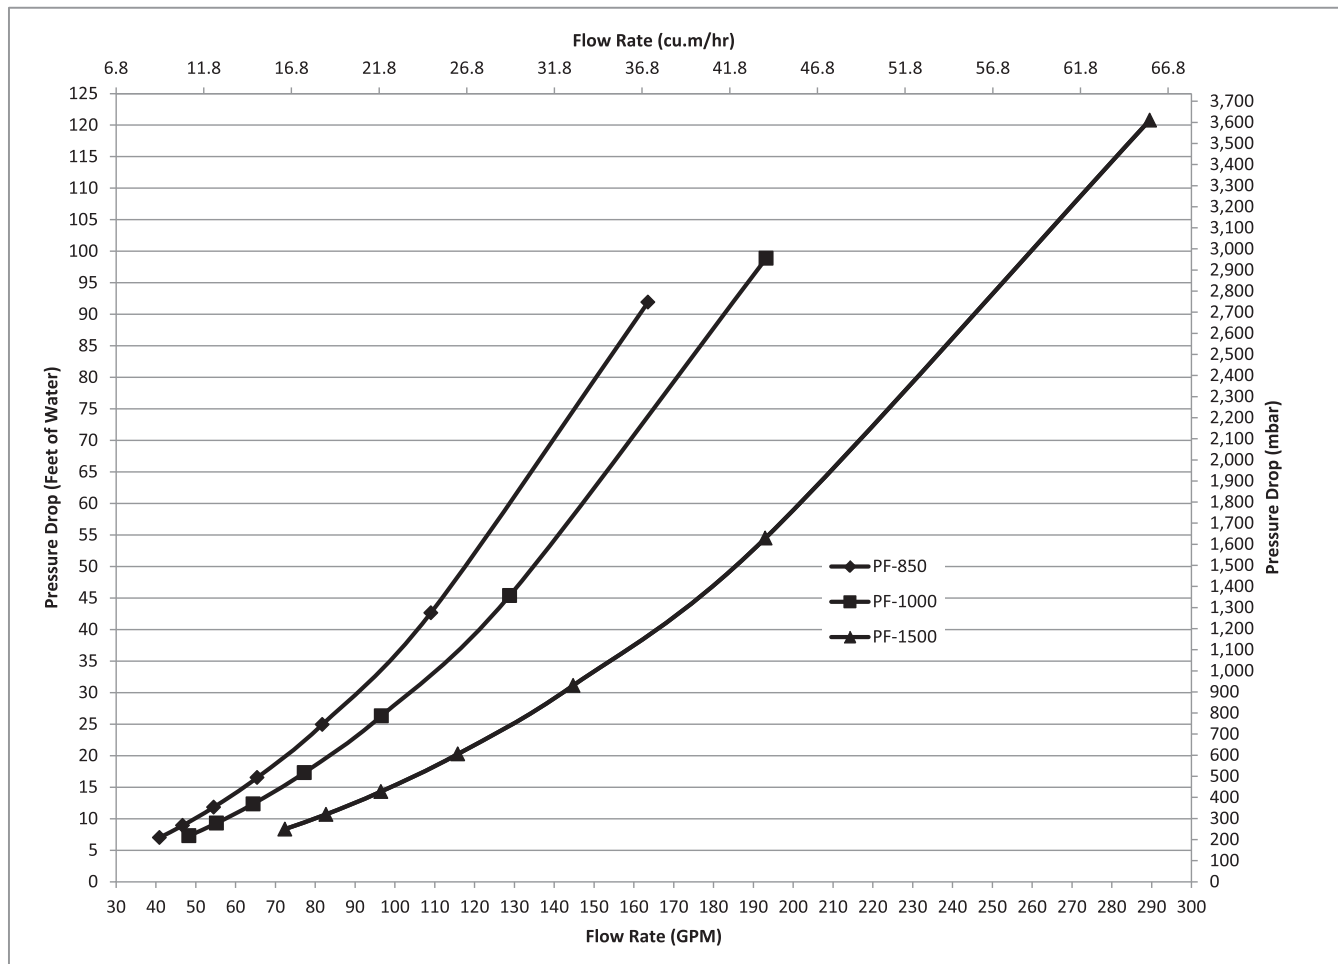

Figure 4.3: PUREFIRE® Circulator Sizing Graph (General Pump - Primary/Secondary)
- d. The boiler pressure drop for various flow rates can be determined using Figure 4.3, *PUREFIRE®* Circulator Sizing Graph below.